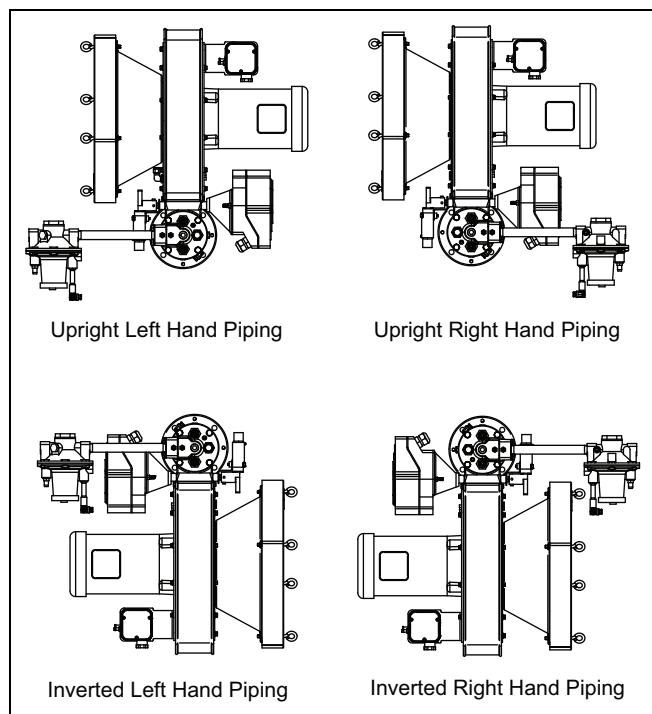

Figure 3.1. Configuration Selection and Motor Orientation Choice
- **Fuel Type:** Variation in calorific value, specific gravity and WOBBE index will affect burner performance. If any of these parameters change more than ±5% from Figure 3.1 contact Eclipse to check the suitability of the fuel. Performance data, dimensions and specifications are given for each RatioMatic in Datasheets Series No.110.